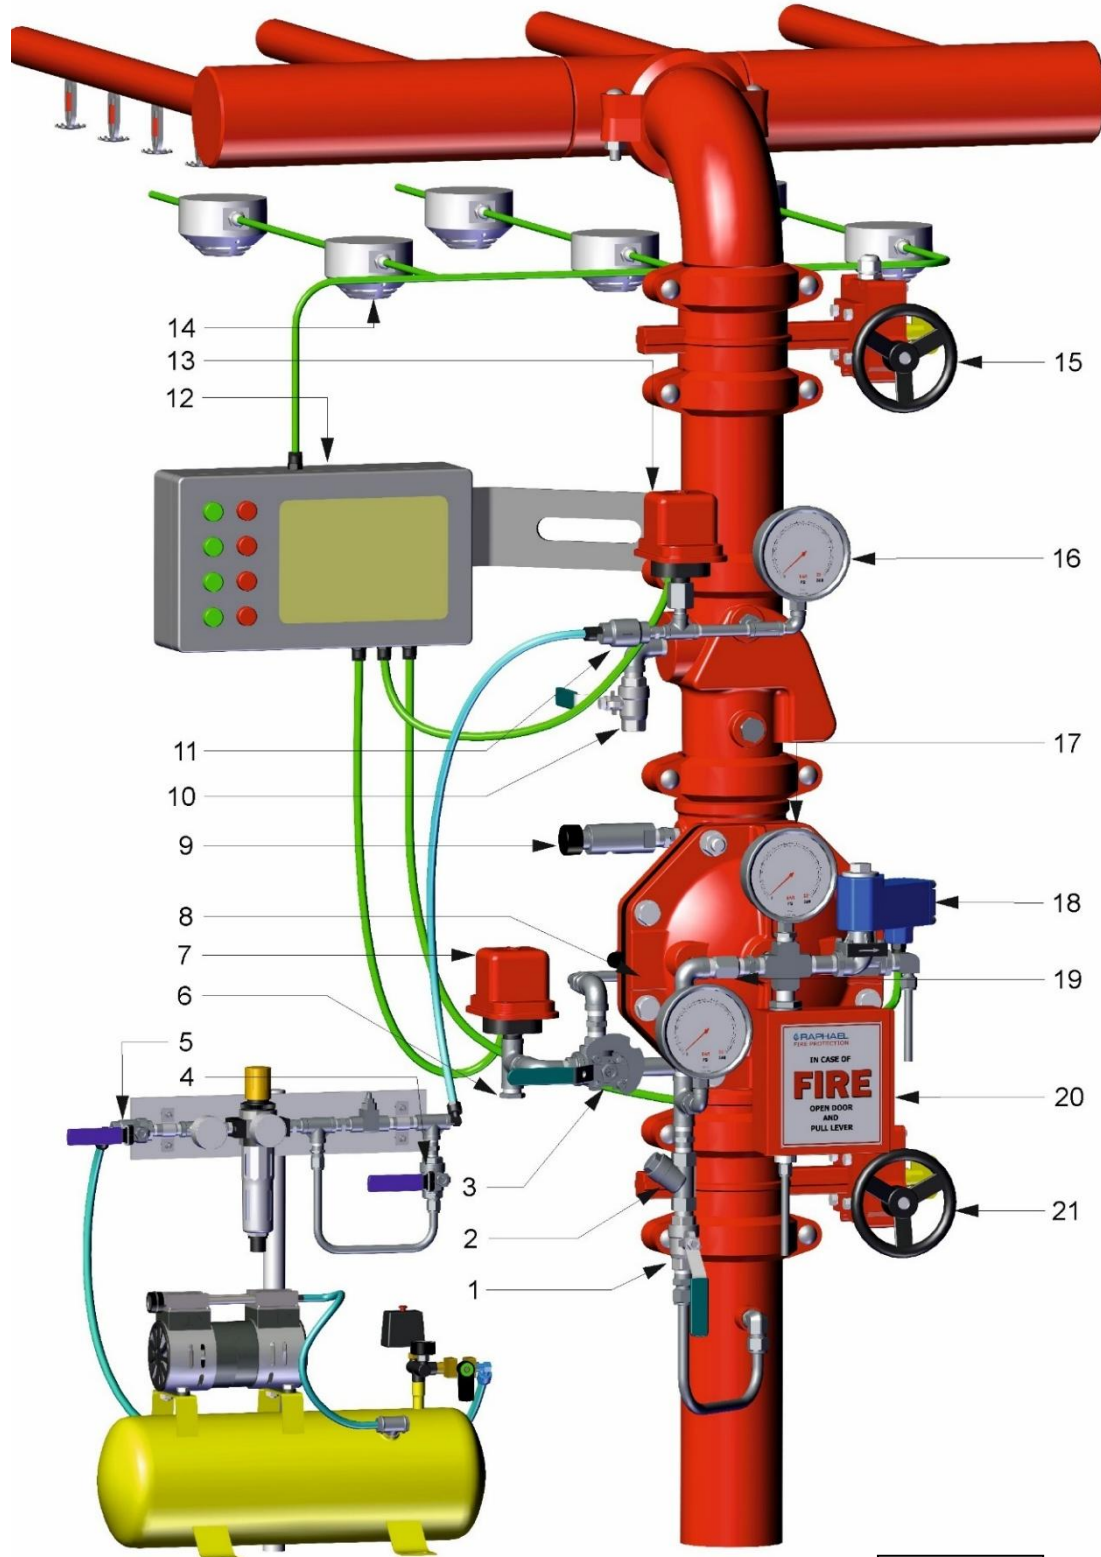

Figure 2
A series of smoke and heat detectors is installed over the protected area and is electrically connected to the main fire-protection control board (12 in figure 2).
INSTALLATION (Reference Figure 2)
8. All connections to water supply, alarms etc. should be done in accordance with figure 2:
INSTALLATION PARTS LIST (Reference Figure 2)
OPERATING INSTRUCTIONS (Reference Drawing - figure 2)
(Reference Drawing - figure 2)
(Reference drawing - figure 2)
Resetting & placing in service (Reference Drawing - figure 2)
After a real fire situation, make sure that the SOV is closed by de-energizing its coil (through the FP main control board). (Reference drawing - figure 2)
MAINTENANCE (Reference Figure 2)